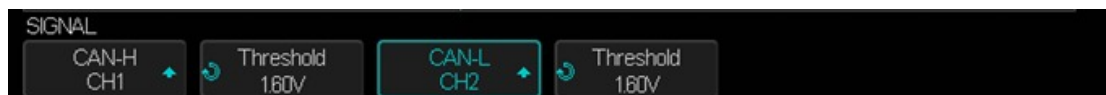

Figure 52: CAN SIGNAL Menu
4. Press **Signal** softkey to enter the **SIGNAL** menu as Figure 52 shows.